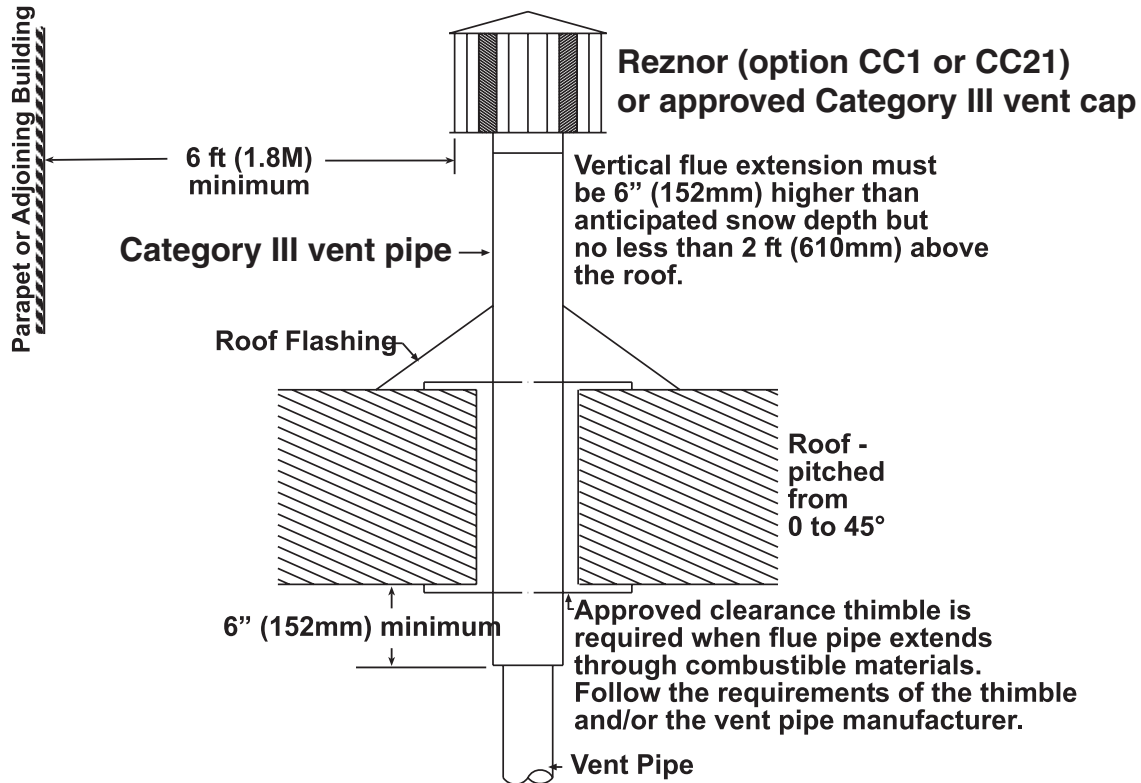

Figure 12. Vertical Vent Terminal (Commercial/Industrial Installations)
- c. Refer to instructions shown in Figure 12 to install vertical vent terminal.
- b. Refer to instructions shown in Figure 12 to install vertical vent terminal.